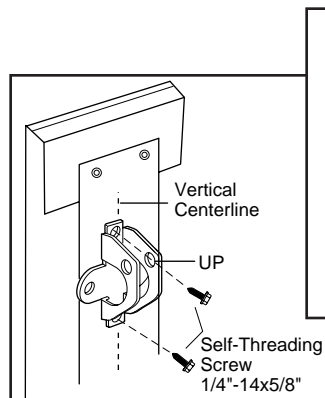

Figure 3
- Drill 3/16" fastening holes. Secure the door bracket using the self-threading screws (Figure 3).